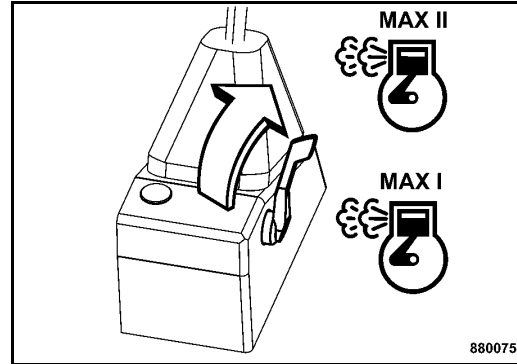

Fig. 74
- Set the throttle lever (Fig. 74) to position "Max I" or "MAX II".